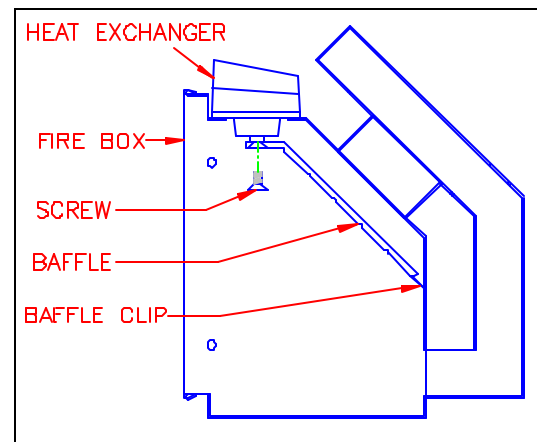
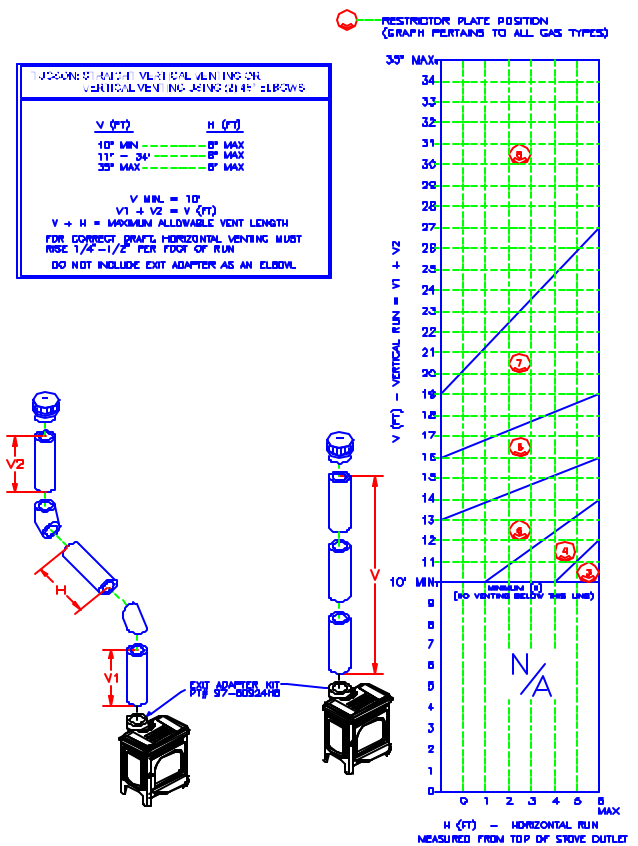
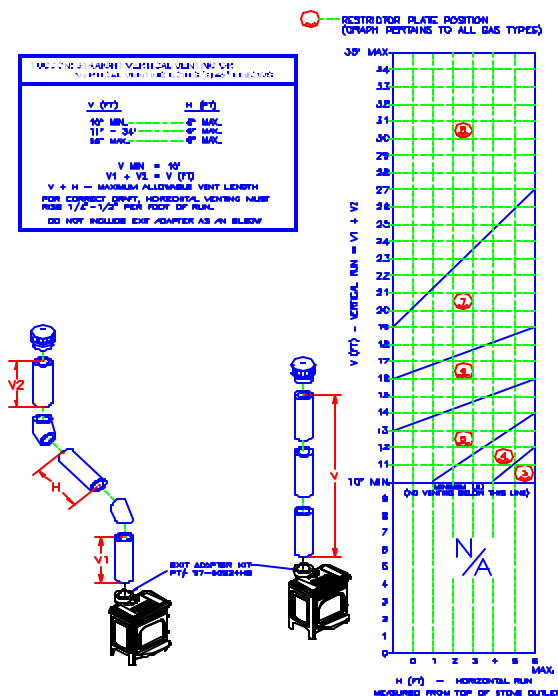

Figure 10: Baffle Removal
Figure 14: Vertical Terminations Using Straight Pipe
Figure 15: Vertical Termination Using (2) 90° Elbows
Remove the log set before adjusting restriction plate by following the log set removal on page 29. Make sure the unit is cool before touching any part of the firebox and log set. Remove the exhaust baffle by removing the one screw in the center of the baffle (refer to Figure 10). The baffle will fall out once the screw is removed. Be careful not to drop the baffle on the burner tube or burner tube holder. Once the baffle is set aside, check the restriction plate screw location. There are eight locations that the restriction plate can be positioned. (refer to Venting Configuration – Figures 14 – 16 for recommended restriction plate positions)
### APPROVED VERTICAL TERMINATION VENTING CONFIGURATIONS WITH NO ELBOWS OR (2) 45° OFFSETS, FIGURE 14, AND (2) 90° ELBOWS, FIGURE 15.
- 6' maximum offset (refer to Figure 14)
- 11' maximum offset (refer to Figure 15)
- The termination must fall within the Outline shown in the Figures 14 & 15. Use the indicated restriction plate position. The Restriction Plate part # is 5950-922.